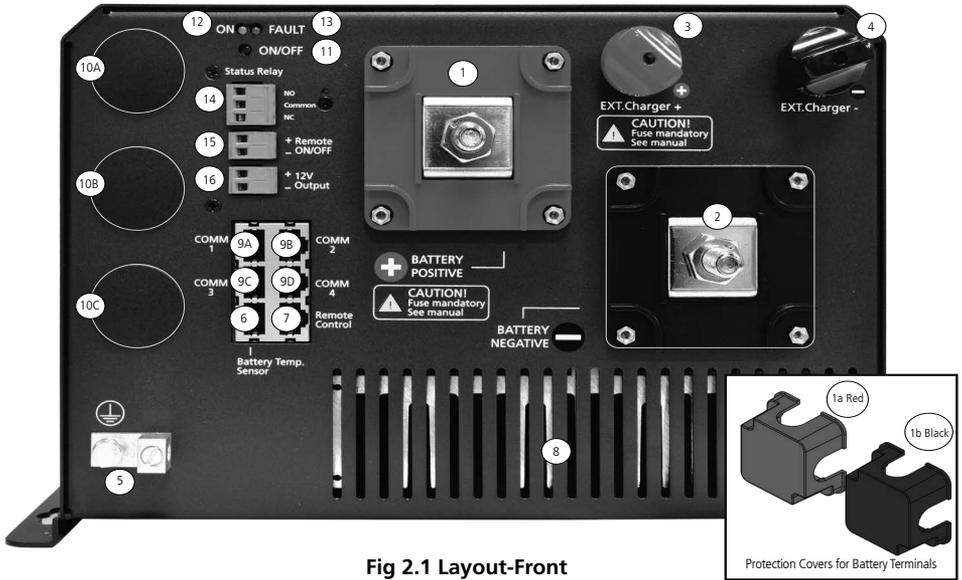

Fig 2.1 Layout-Front
2.1 MAIN UNIT: LAYOUT-FRONT (FIG 2.1)
DC Terminal Covers (1a, 1b: Fig 2.1) (Fitted on the unit with 2 screws each)
Mating Connectors (14, 15, 16: Fig 2.1)